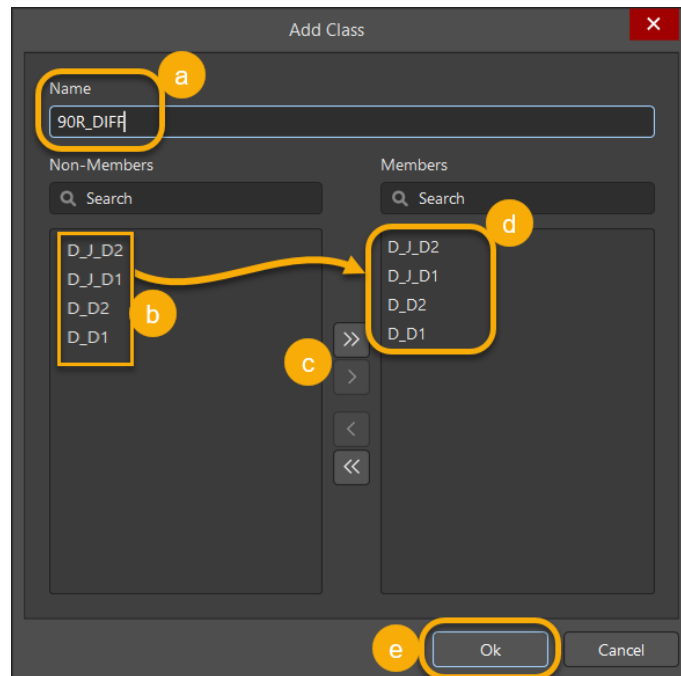

Figure 7. Add the members to the new Diff Pair class `90R_DIFF`
25. In the *Add Class* dialog, follow the steps below, Figure 7: